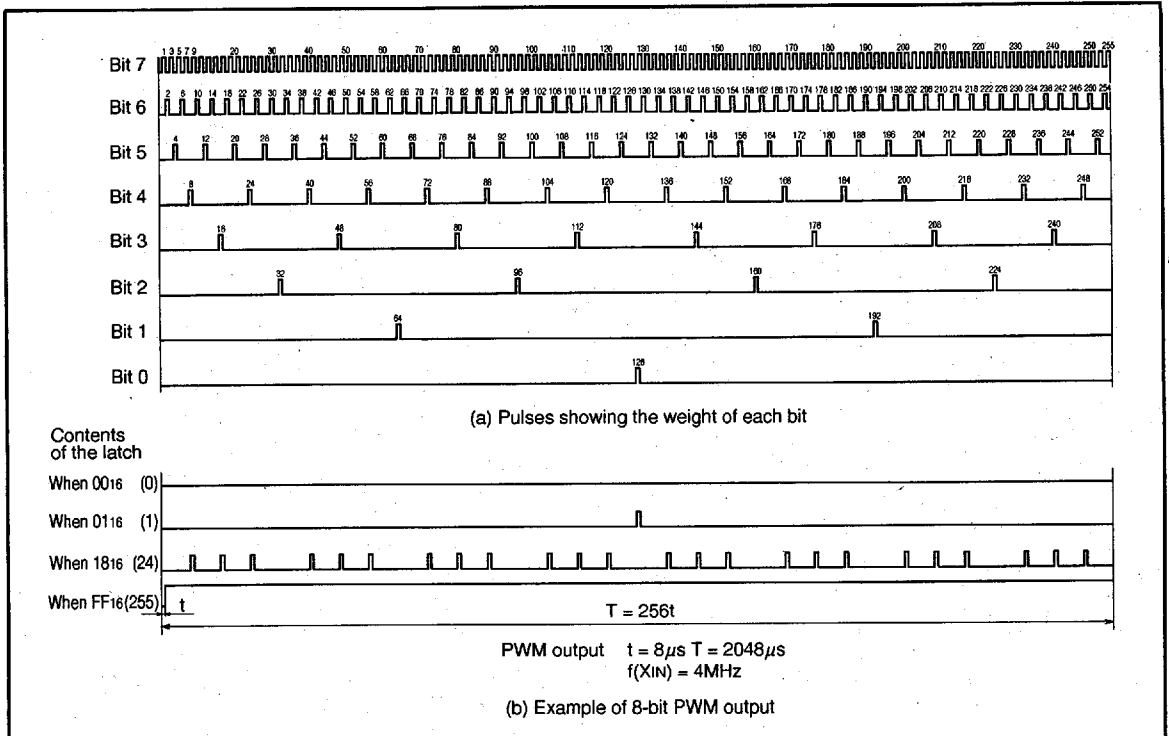

Fig. 17 8-bit PWM timing
(4) Operation of the 8-bit PWMs
The timing diagram of the ten 8-bit PWMs (PWM0-9) is shown in Figure 17. One period (T) is composed of 256(2⁸) segments.
There are eight different pulse types configured from bits 0 to 7 representing the significance of each bit. These are output within one period in the circuit internal section. Refer to Figure 17 (a). Eight different pulses can be output from the PWM.
These can be selected by bits 0 through 7. Depending on the content of the 8-bit PWM latch, pulses from 7 to 0 is selected. The PWM output is the difference of the sum of each of these pulses. Several examples are shown in Figure 17 (b). Changes in the contents of the PWM latch allows the selection of 256 lengths of high-level area outputs varying from 0/256 to 255/256. A length of entirely high-level output cannot be output, i.e. 256/256.